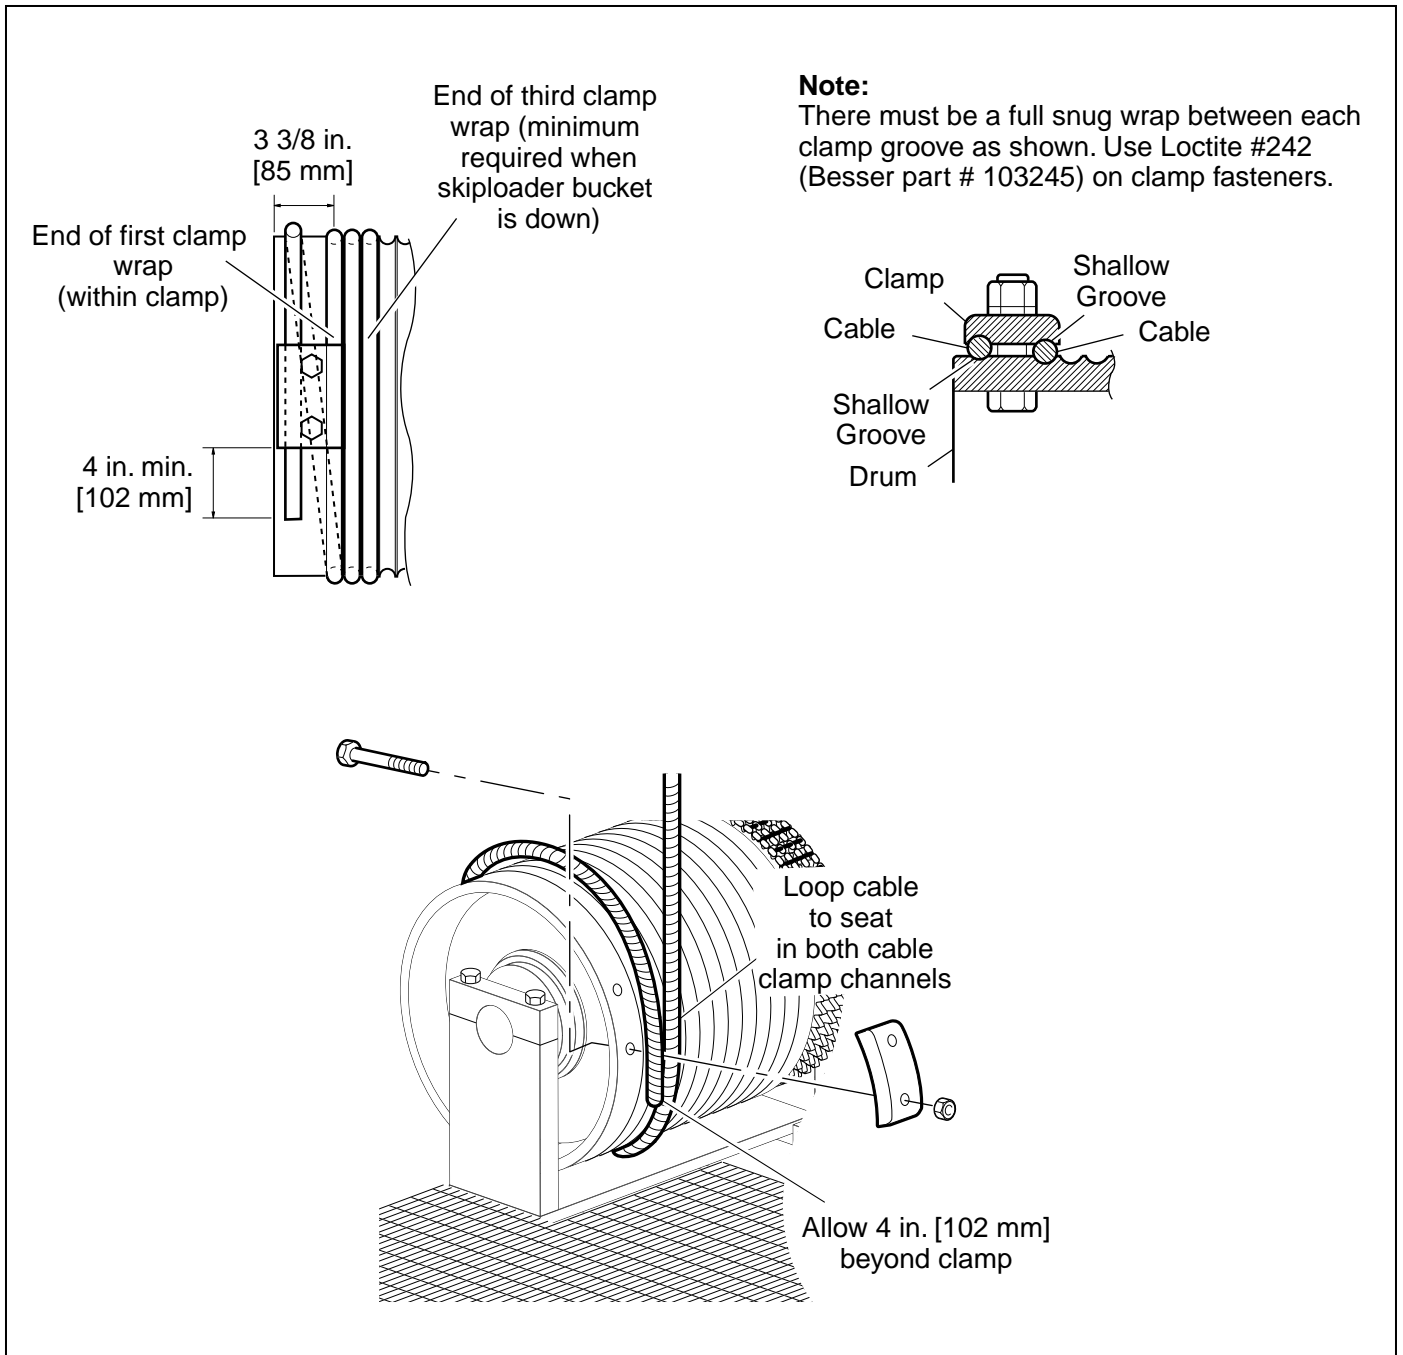

Figure 3.10 Install Cable to Drum
- Wrap the cable twice around cable drum on the drive assembly and thread it under the clamp on the drum. See Figure 3.10.
- Confirm that the cable is wrapped in the direction shown in Figure 3.10, and make sure that the end of the cable projects at least 4 inches [102 mm] from clamp.